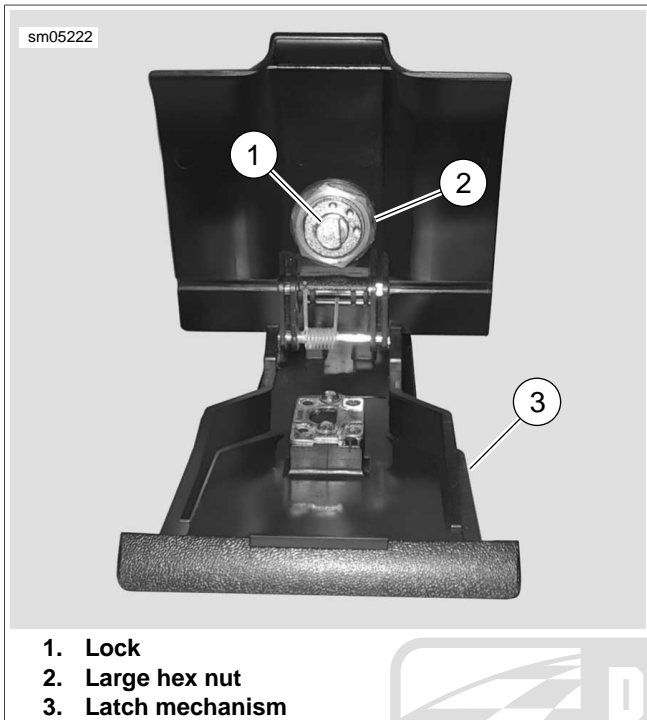

Figure 2-210. Latch Mechanism and Lock
4. See Figure 2-210. Loosen large hex nut and remove lock from latch mechanism.
1. See Figure 2-210. Install lock into **new** latch mechanism and secure with large hex nut.